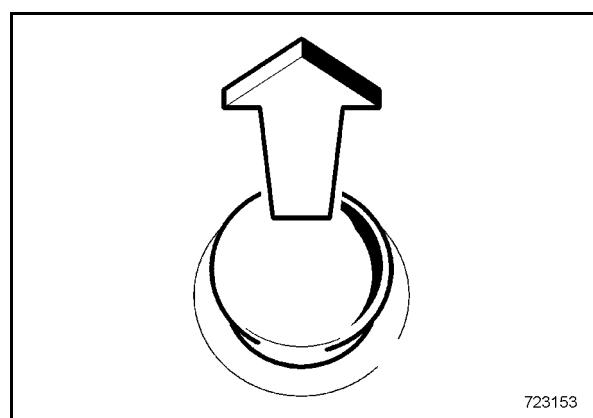

Fig. 31
- If necessary unlock the emergency stop switch (Fig. 31).